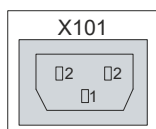

Fig. 3: C6640_voltage socket 100-240 V
The power supply is connected via the IEC socket (X101) on the top of the industrial PC. The assignment includes a protective conductor (1), a neutral conductor (2) and an outer conductor (2) (see Fig. 3).